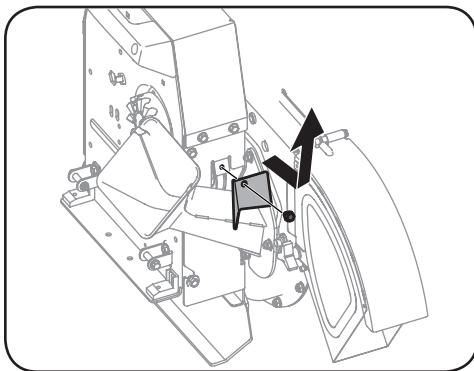

Figure 5-8
8. Remove the cover bracket from the frame by removing the hex bolt which secures it. See Figure 5-8.